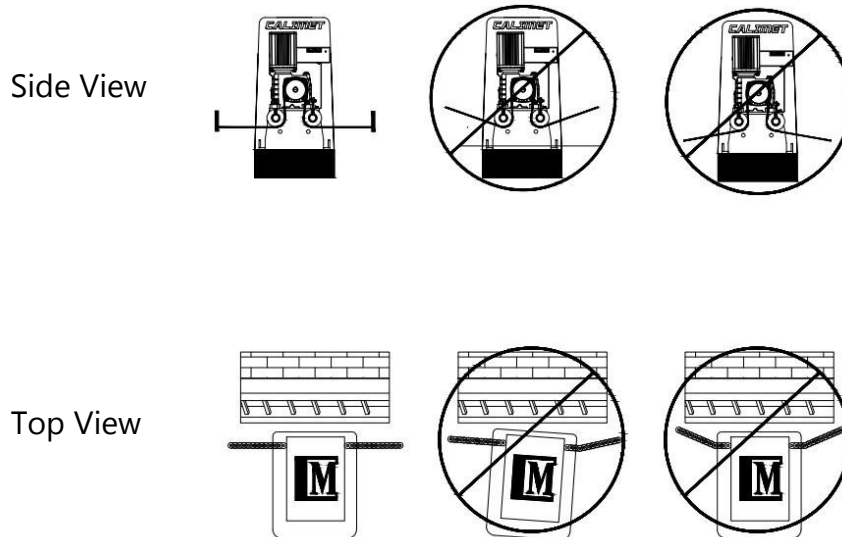

Figure 8
**NOTE:** Make sure the chain is straight and not bent. Incorrect installation can cause the gate operator to malfunction and potentially get damaged. Figure 8.